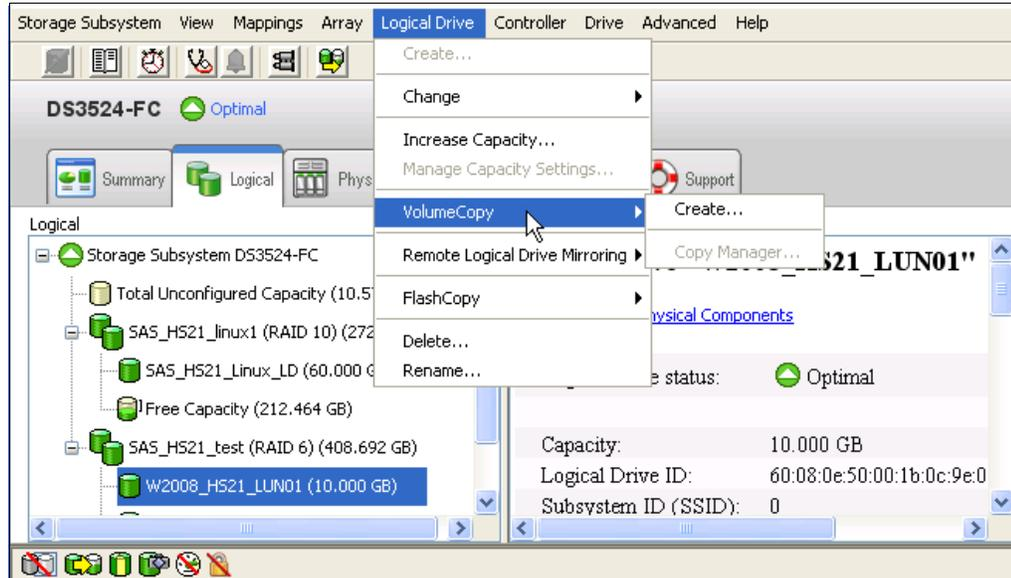
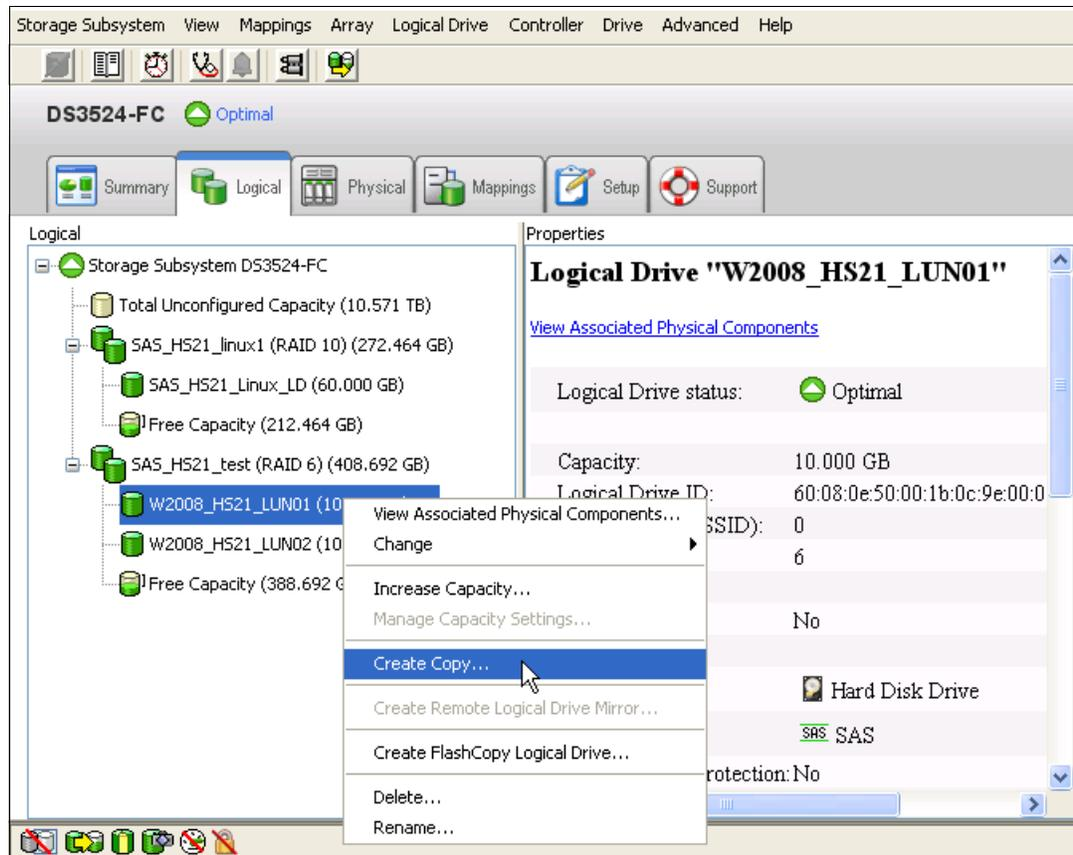

Figure 3-6 Launching Logical Drive Create Copy wizard from Logical Drive drop-down
Figure 3-7 Launching Logical Drive Create Copy wizard from right-mouse pop-up menu
4. Select **Logical Drive** → **VolumeCopy** → **Create** as shown in see Figure 3-6. (Or, right-click and select **Create Copy**, as in Figure 3-7).